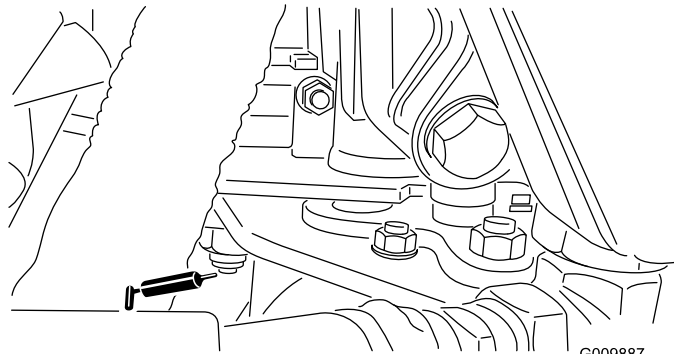

Figure 42
- Traction pedal pivot (Figure 42)